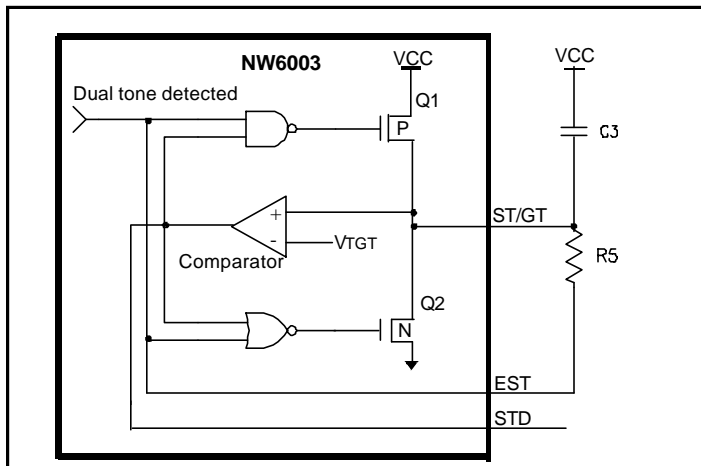
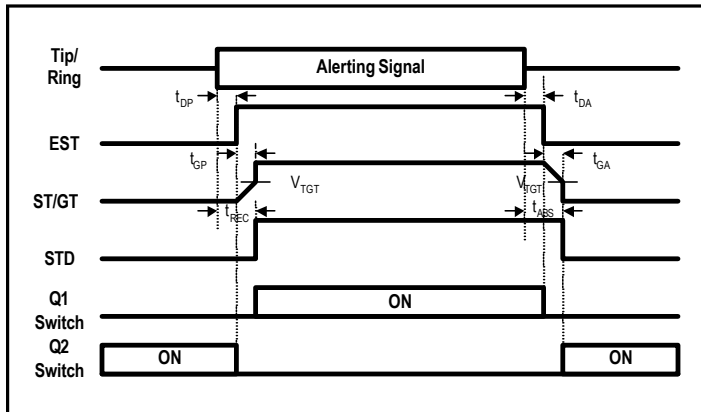
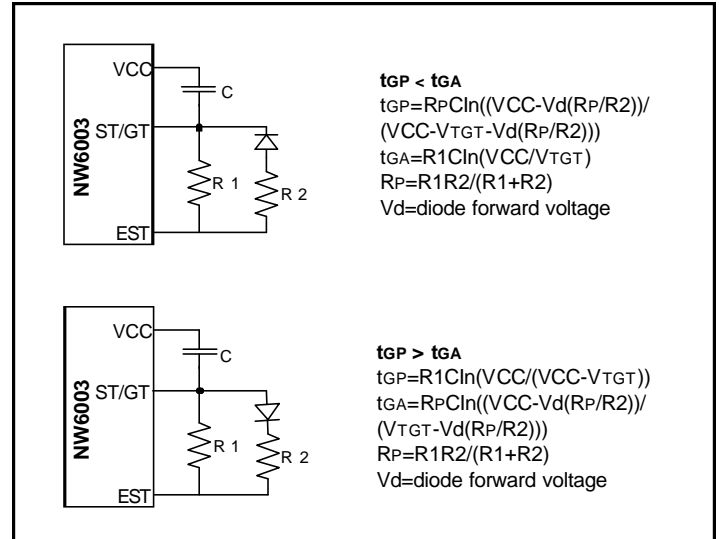

Figure 7. Guard Time Circuit of Dual Tone Alert Signal Detection
Figure 8. Guard Time Waveform
Figure 9. Guard Time Circuits with Unequal Present and Absent Times
Figure 7 shows the operation of the guard time circuit and Figure 8 shows the waveform of the EST, ST/GT and STD pins. The total recognition time is $t_{REC} = t_{DP} + t_{GP}$, where t_{DP} is the tone present detection time and t_{GP} is the tone present guard time. The total absent time is $t_{ABS} = t_{DA} + t_{GA}$, where t_{DA} is the tone absent detection time and t_{GA} is the tone absent guard time. The guard time is the RC time constant for the capacitor charge to VCC or discharge to GND. To get the unequal present and absent guard time, a diode can be connected as shown in Figure 9 to provide different RC time constant (varying resistance value) during charging and discharging.
When the system is first powered up, $\overline{TRIGOUT}$ will be low (C3 at TRIGRC has no initial charge) and STD will be high if PWDN is low (no charge across the capacitor at ST/GT pin in Figure 7), interrupt signal will be generated. The microcontroller should ignore interrupts from these sources on the initial power up until there is sufficient time to charge the capacitors. Also, by asserting PWDN high immediately after system power up, STD will become low and no interrupt will be generated. In power-down mode, EST and comparator output are forced low, the charging switch will turn on, and the capacitor at ST/GT pin will charge up more rapidly.
- 2) By choosing $t_{\text{CA}}=15\text{ ms}$, t_{ABS} will be 15-25 ms (refer to Figure 8). Current wetting pulse and AC/DC load should be applied right after the STD falling edge.